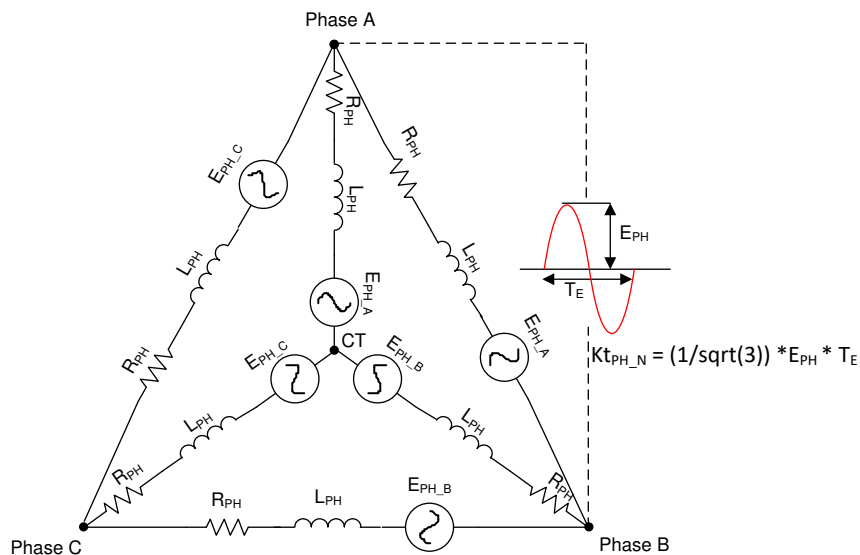

Figure 2-4. Motor BEMF Constant
Step 4: If the motor does not have a data sheet, then measure the voltage across any two phases of the motor using an oscilloscope by manually spinning the motor. A sinusoidal or trapezoidal voltage appears on the oscilloscope. Measure the peak voltage E_{PH} in milli-volts and time period T_E in seconds as shown in Figure 2-4. Calculate BEMF constant Ke as shown in Equation 5.